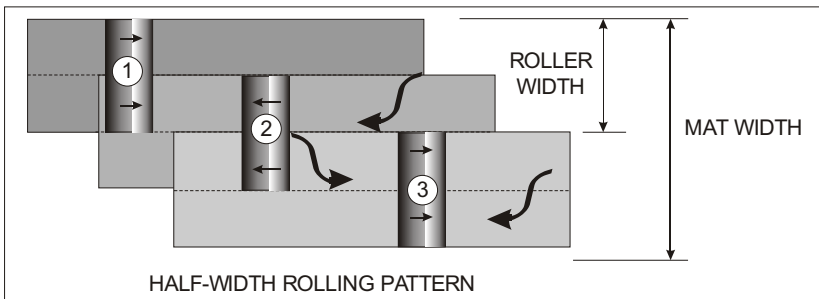

Figure 3: Half-width rolling pattern
- the driver/operator should be trained and aware of required roller compaction patterns (eg. Figure 3);